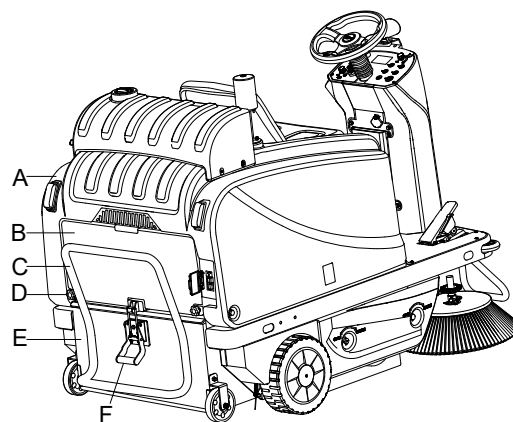

Figure 30
3. Remove the cover (A, Figure 30)
4. Disengage the latch (F, Figure 30) by pulling its lower end.
5. Remove the hopper (E, Figure 30) by disengaging it from the inner guides with the handle (C, Figure 30).
6. Unscrew the knobs (D, Figure 30) and remove the filter compartment cover (B, Figure 30).